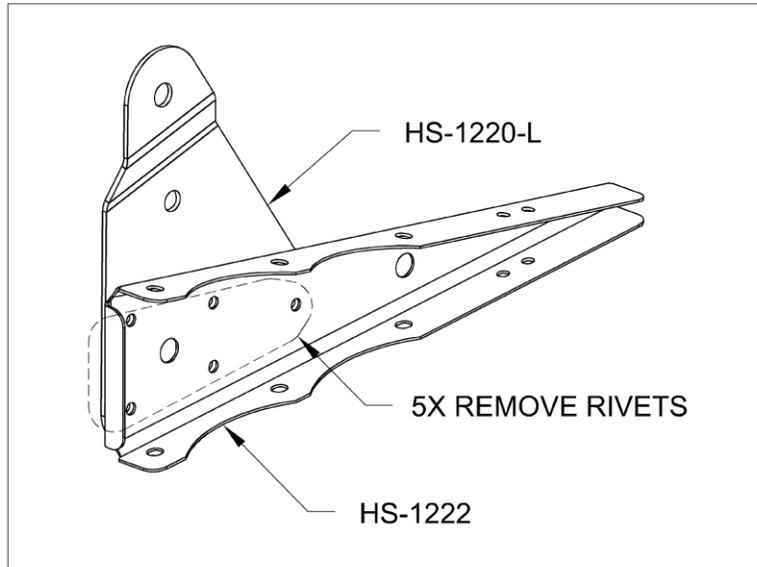

FIGURE 2: REMOVE HORN FROM RIB
Step 6: Remove the rivets attaching the HS-1220-L AST Control Horn to the HS-1222 AST Rib. See Figure 2. Discard the rib.